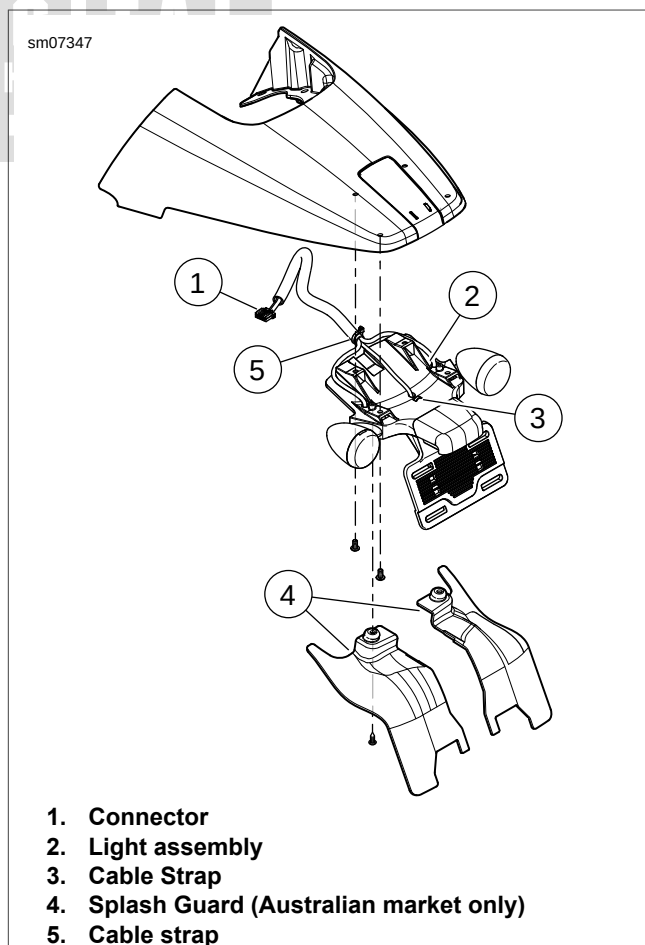
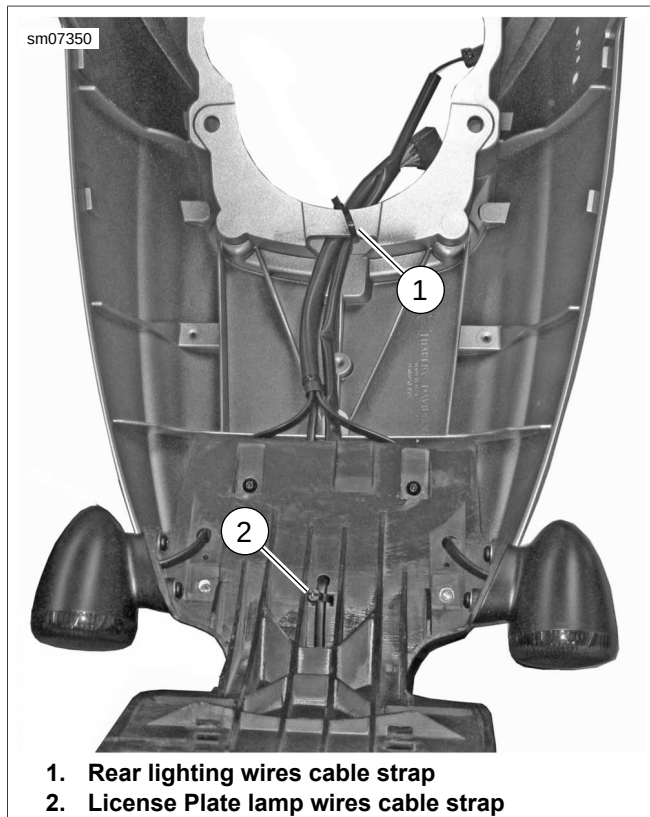

Figure 7-22. Light Assembly
Figure 7-23. Securing Wires
2. **Australian market only:** See Figure 7-22. Remove splash guard (4).
4. Remove light assembly (2).
5. Remove turn signal wire terminals from connector (1). See A.20 TYCO 070 MULTILOCK UNSEALED CONNECTOR.
6. Remove cable strap (5).
10. Install **new** cable strap (5).
13. **Australian market only:** Install splash guard (4).
14. See Figure 7-23. Route wiring through tunnel in rear fender and secure with cable strap.
5. Remove license plate wire terminals from connector (1). See A.20 TYCO 070 MULTILOCK UNSEALED CONNECTOR.
7. See Figure 7-23. Remove cable strap (2).
10. Install **new** cable strap (2).
11. See Figure 7-22. Install **new** cable strap (5).
14. **Australian market only:** Install splash guard (4).
15. See Figure 7-23. Route wiring through tunnel in rear fender and secure with cable strap (1).